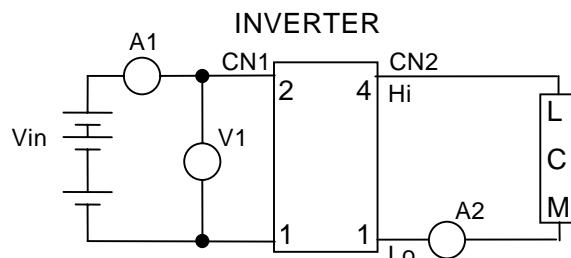

Fig.1 Wiring
(1) The electrical characteristics are measured as we show on measurement diagram Fig.1. Vin=12.0V.
(2) As we show on measurement diagram Fig.1, the test equipment shall be V1:DC Volt meter (Class0.5) A1:DC Current meter(Class0.5) A2:AC Current meter type2016(Y.E.W) or FLUKE45(FLUKE) Vin: DMS35-2.3(Metronix).
(3) The line length of between the lamp and CN2(high voltage)is less than 150mm.